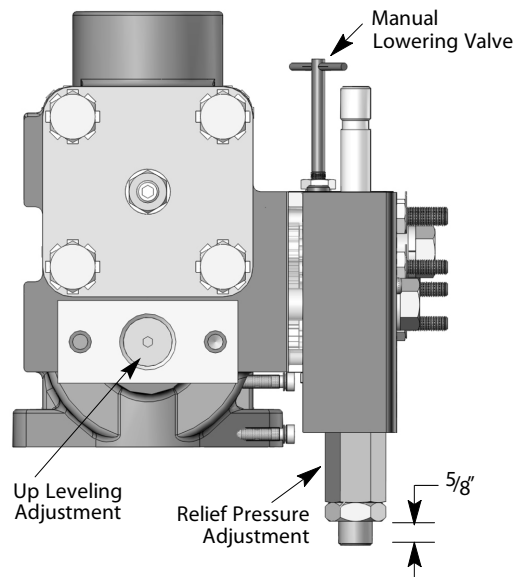

Figure 1 - Relief Pressure Setting
3. Lower the car onto the buffers by opening the manual lowering valve. See Figure 1.